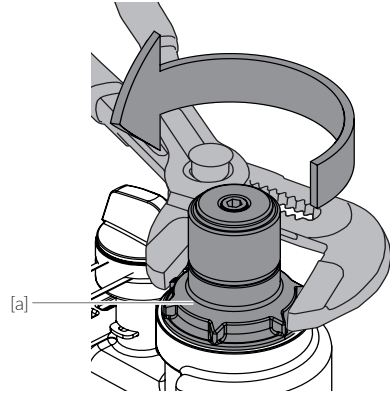

Fig. 8.12
- / Fig. 8.12: Turn the screw cap [a] in the direction of the arrow using a pair of valve pliers and remove it from the housing